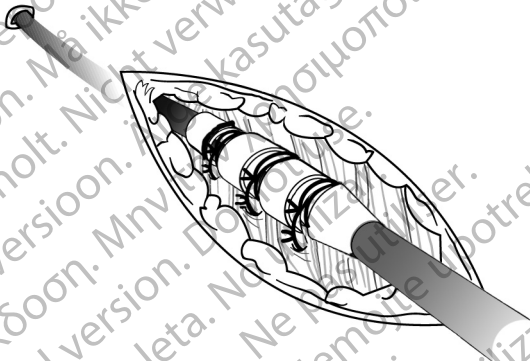

Figure 11. Example of suture sleeve, percutaneous implant technique
1. Peel back the introducer sheath and slide the suture sleeve deep into the tissue (Figure 11 Example of suture sleeve, percutaneous implant technique on page 26).